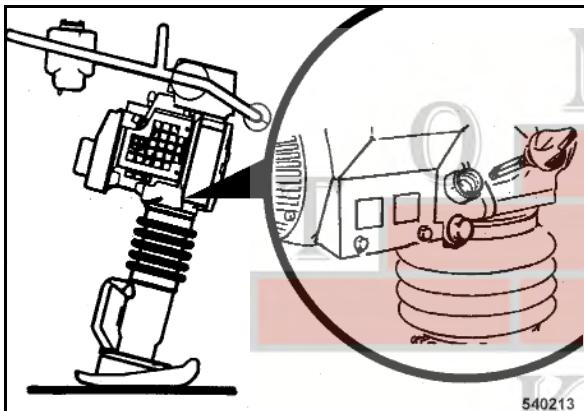

Fig. 33 □
- Pull out the dipstick (Fig. 33) and wipe it clean with a lint-free, clean cloth.